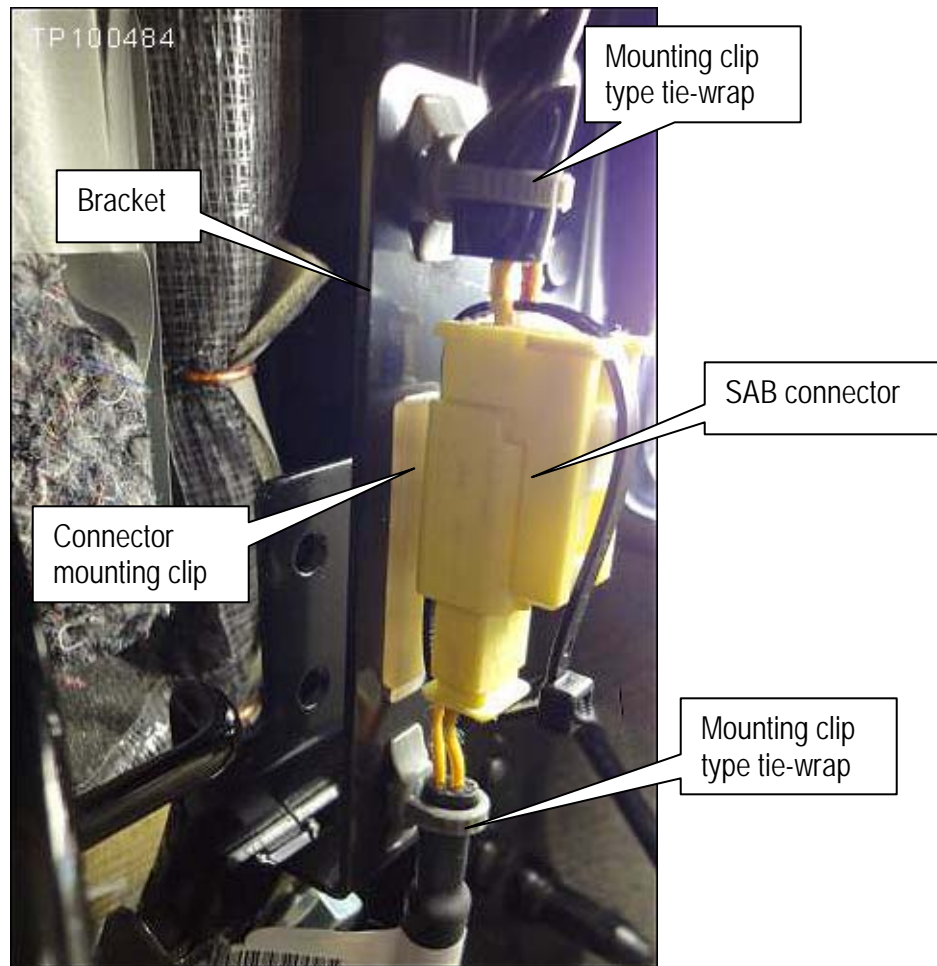

Figure 1d
1. Look under the seat and locate the SAB connector (see Figure 1d).